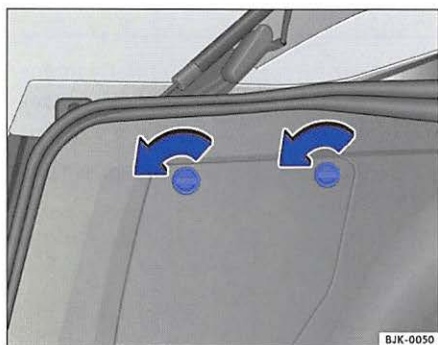

Fig. 62 First aid kit storage bin in the luggage compartment
– Turn the two quick releases in the direction of the arrows ⇒fig. 62 to open the first aid kit storage bin.